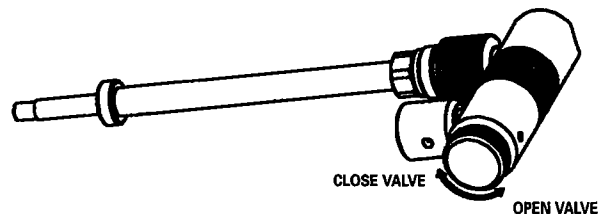

Fig. 2
4. Close the 1077 Adapter valve at the bottom of the adapter by tightening the valve until it stops. (see Figure 2) Always make sure that the adapter valve is closed before attempting to install or remove it from the airgun, or before removing or installing AirSource CO₂ cylinder.
2. Close the 1077 Adapter valve at the bottom of the adapter by tightening the valve until it stops. (see Figure 2)
6. Open the 1077 Adapter valve by turning the valve until it stops. (see Figure 2)
3. Close the 1077 Adapter valve at the bottom of the adapter by tightening the valve until it stops. (see Figure 2)